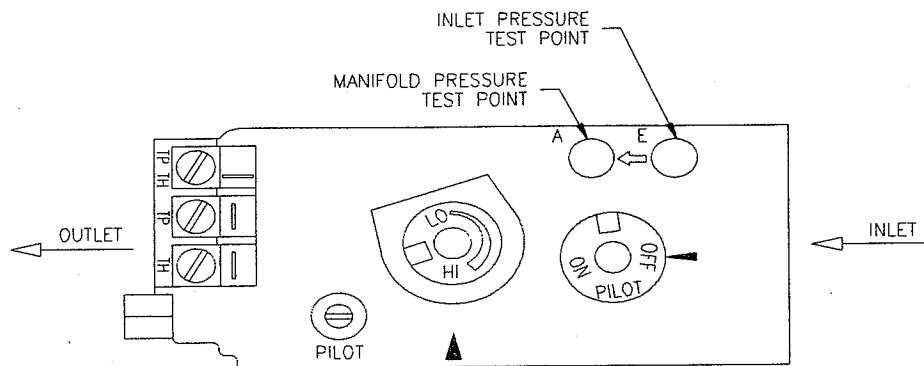

Figure 3
5. Push in the gas control knob slightly and turn clockwise → to the "OFF" position (see Figure 3).